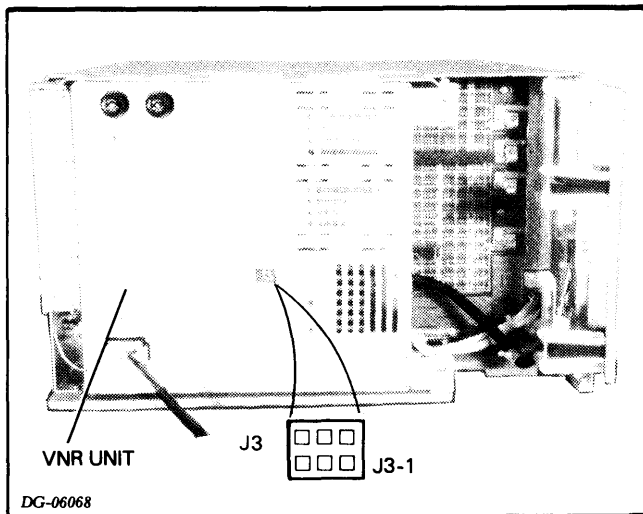

Figure 6.9 JACK3
- b. Check the **BAT +** voltage at jack J3-1 (see Figure 6.9).
- If **BAT +** is **NOT** greater than 12V, then measure the voltage **DIFFERENCE** between J3-5 and J3-6 (see Figure 6.9). If it is greater than one volt, replace the battery; otherwise, replace the VNR unit.